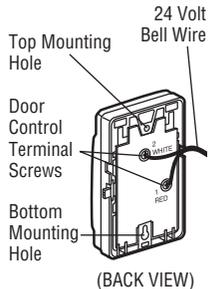

Figure 3
- Remove the cover by gently prying at slot in top of cover with a small flat head screwdriver (Figure 3). Fasten with 6ABx1-1/4" self-tapping screws (drywall installation) or 6-32x1" machine screws (into gang box) as follows: